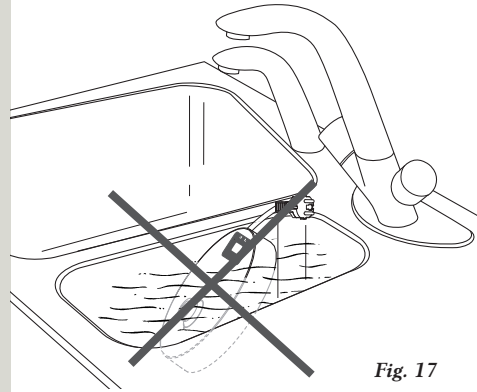

Fig. 17
- DO NOT immerse the power supply base in water (fig. 17).